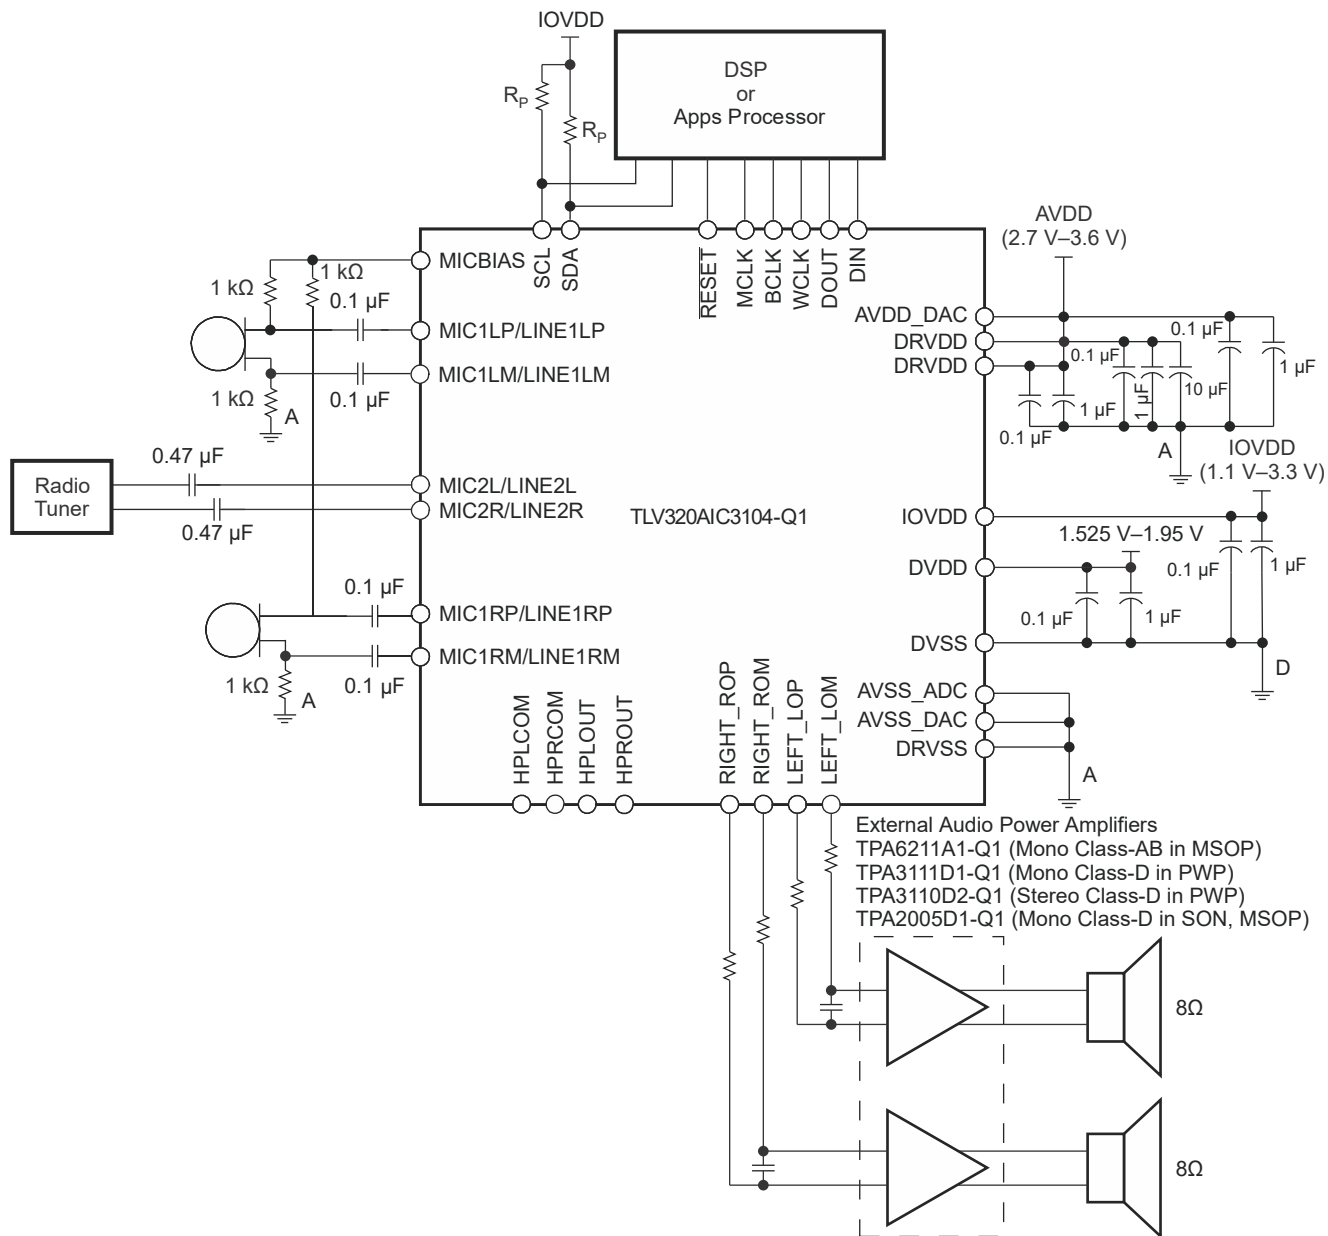

图 9-1. Typical Connections With Differential Inputs for External Speaker Driver
- Use 图 9-1 as a guide to integrate the hardware into the system.